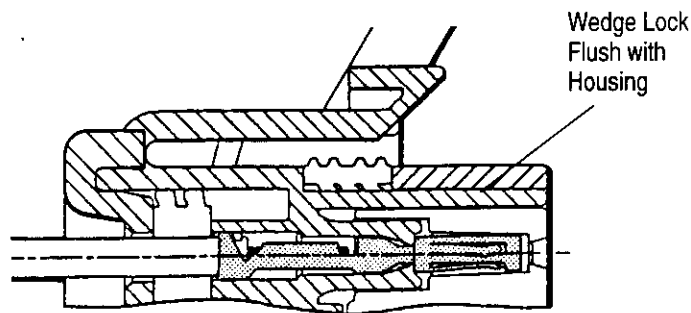

Figure 6
- Changed Figure 6 to Figure 11 and added AMP/FAX Product Information reference to paragraph 4.1
4. Slide the wedge lock into the housing until it is flush with the housing (see Figure 6).